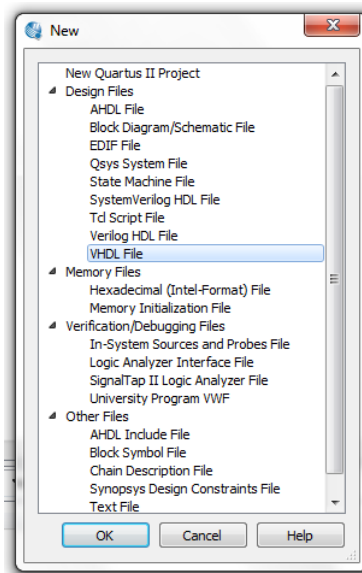

Figure 5: Create a new file menu
1. Go to **File** → **New** → **VHDL File** → **OK** as shown in Figure 5.